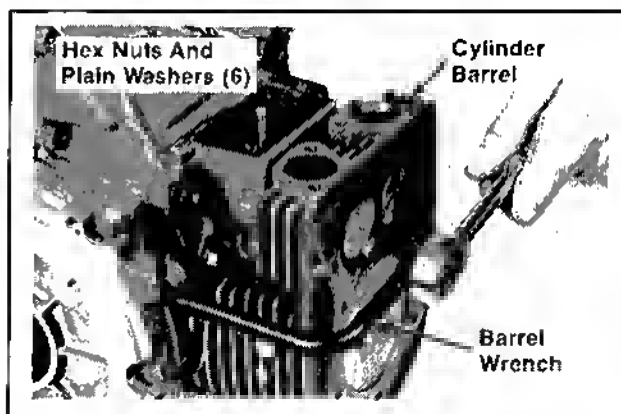

Figure 9-23. Removing Cylinder Barrel Fasteners.
1. Remove the hex. nuts and plain washers using the barrel wrench. Refer to Figure 9-23.